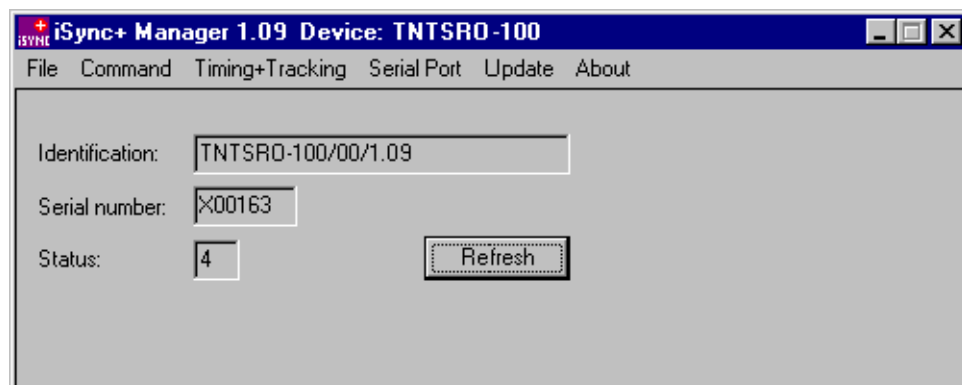

Figure 1 - iSyncMgr.exe
- Once the serial port number is properly working, click on the “Refresh” button. The Identification, Serial Number and Status of the smart SRO rubidium clock inside the GPSReference-2000 should be displayed as Figure 1 below: